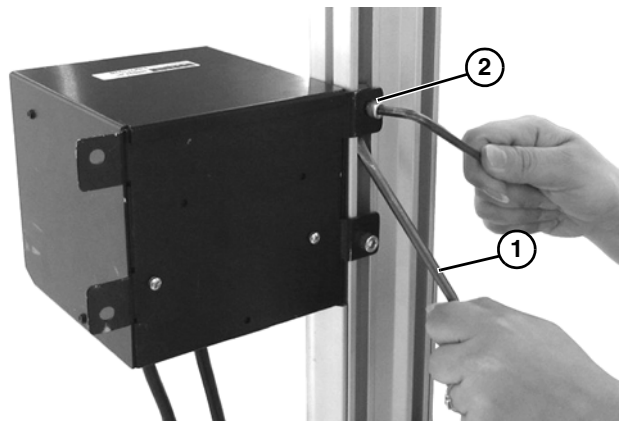

Figure 24
3. Using screwdriver (**Figure 24, item 1**), raise 2nd T-bar to align it with upper mounting tab hole and insert a screw (**Figure 24, item 2**) and partially thread into T-bar as shown.